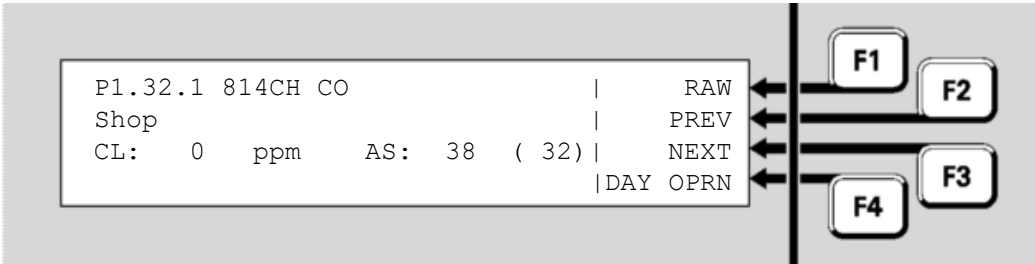

Fig 6-28 – Point current-level display – physical values
- Press **NGT OPRN**←**F4** to show the name of the night algorithm. This is usually the same as the day algorithm. The currently used sensitivity settings are shown in the point current level display. See Figure 6.28.